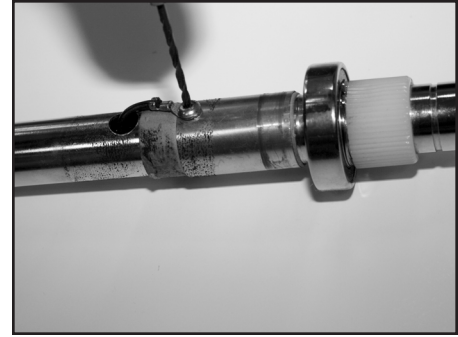

Figure 5
11. Using a drill with 1/8 inch size bit, remove the head of the rivet that secures the outer shaft contact ring to the shaft. Figure 5